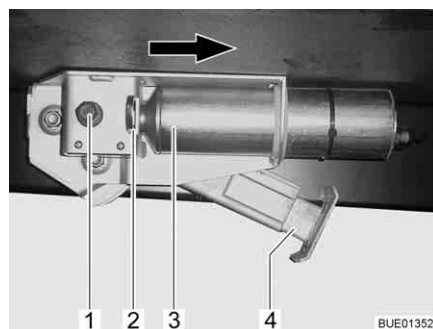

Fig. 37 Electrical steady leg on vehicle
- Within 2 seconds, press the "Extend steady leg" button (Fig. 36,3) and hold it until the support leg (Fig. 37,4) is touching the ground.
- Within 2 seconds, press the "Retract steady leg" button (Fig. 36,1) and hold it until the support leg (Fig. 37,4) is fully retracted. Once the support leg is fully retracted, a control signal sounds.
- Press the securing bracket (Fig. 37,2) inwards.
- Push the motor (Fig. 37,3) in the direction indicated as far as it will go.
- Extend or retract the steady leg like a mechanical steady leg via the hexagonal nut (Fig. 37,1).
When the fault has been rectified: Push the motor in the opposite direction of the arrow to its initial position. Pull out the securing bracket (Fig. 37,2) until it engages.